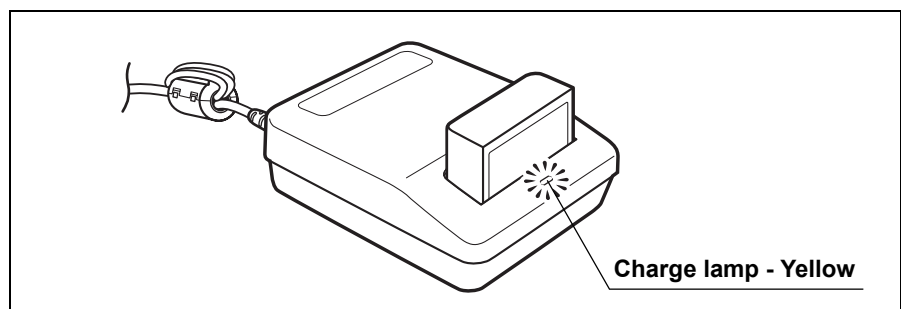

Figure 5.3
4. When the battery pack is properly attached, the charge lamp on the battery charger is illuminated yellow to indicate the start of a recharge (see Figure 5.3). The recharging time is approximately 2 hours.